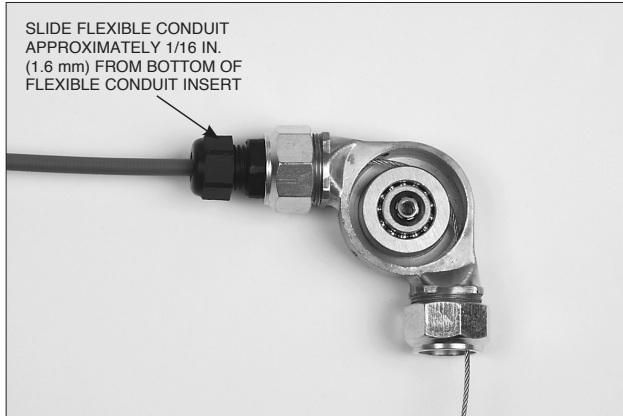

FIGURE 4-55
7. Slide the flexible conduit into the strain relief until it is approximately 1/16 in. (1.6 mm) from the bottom of the flexible conduit insert. See Figure 4-55.